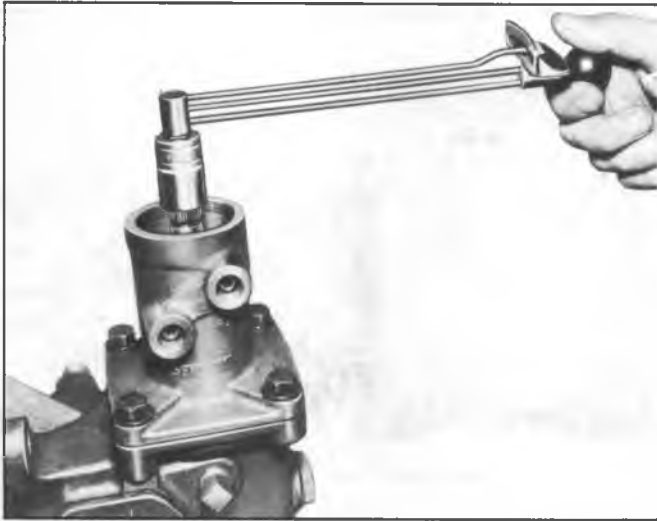

Fig. 35--Checking Valve Assembly Drag
- Place Seal Protector J-6222 over the end of the stub shaft and install the adjuster plug assembly. Check the valve assembly drag as shown in Figure 35. Adjust the thrust bearing so that the preload is 1 to 3 in. lbs. in excess of valve assembly drag. Install the adjuster locknut and torque to 58 ft. lbs.